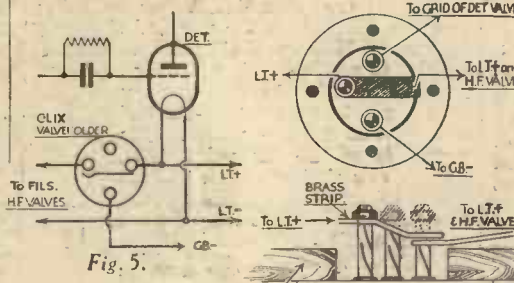

Fig. 5.
**A**N old valve base makes an excellent plug for connecting a pick-up to a set and at the same time breaking the filament connection to the H.F. valve or valves. Fig. 5 gives a circuit diagram of the switching arrangement and connections of a Clix 4-pin chassis mounting valve-holder which is fitted at the back of the set over the terminal strip.